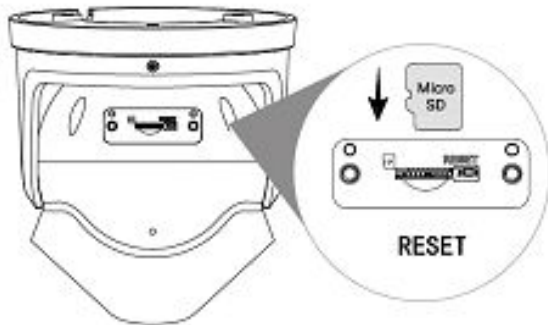

Figure 2-8
Step 2 Slightly press the RESET button for 15-30 seconds to complete the reset function. See Figure 2-8. The camera will reboot when the reset process is complete.
Step 3 (If installing SD Card) Install the Micro SD Card to a proper direction shown in Figure 2-8.